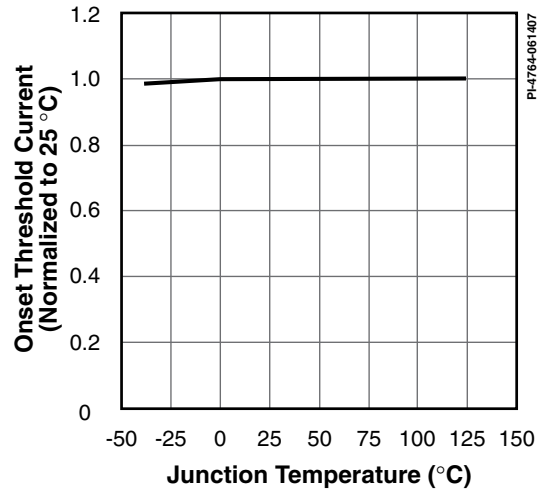

Figure 36. Maximum Duty Cycle Reduction Onset Threshold Current vs. Temperature.
- For externally adjusted current limit values, please refer to Figures 36 and 37 (Current Limit vs. External Current Limit Resistance) in the Typical Performance Characteristics section. The tolerance specified is only valid at full current limit.